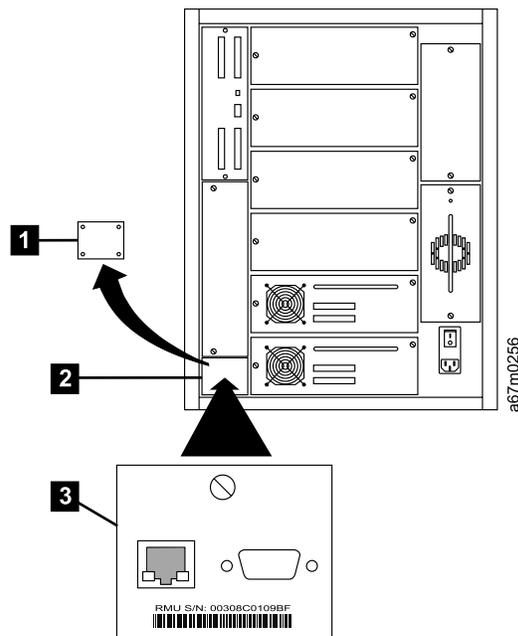

Figure 1. Cover plate removal and RMU installation
4. From the rear of the library, locate the available RMU slot. Loosen the thumbscrew on the cover plate and remove the cover plate. Store the cover plate (see **1** in Figure 1) in a convenient place; it is required for proper operation and cooling of the library if you later remove the RMU.
5. Slide the RMU (see **3** in Figure 1) into position **2** and tighten the thumbscrew.